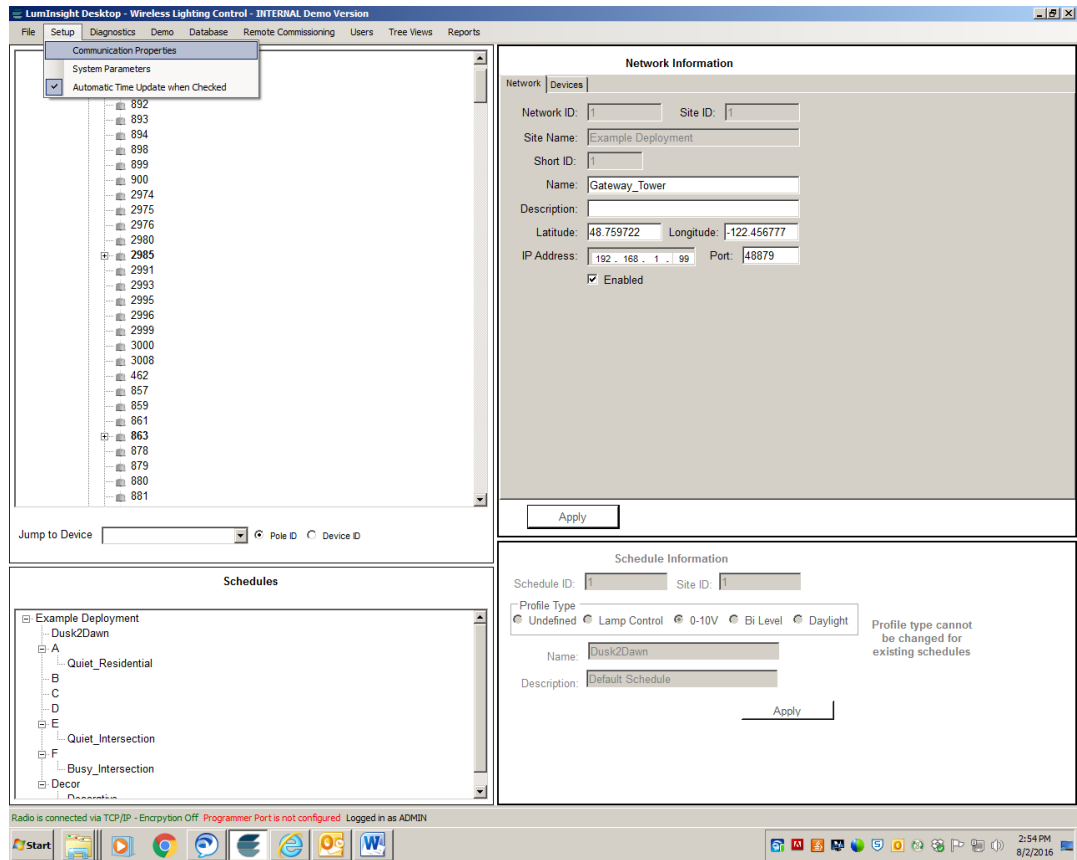

Figure 16. Communications Properties
8. The new USB Serial Port appears onscreen with the correct COM Port shown after the text USB Serial Port (COM#). This is shown in figure 16.
15. Select “Communications Properties” in the list, shown in Figure 16. In the USB Programmer COM Setup, in the top section, select the COM Port that you wrote down in Step 9, when the USB Programmer was plugged in. In the USB Programmer COM Setup, in the top section, select the COM Port that you wrote down in Step 9, when the USB Programmer was plugged in.